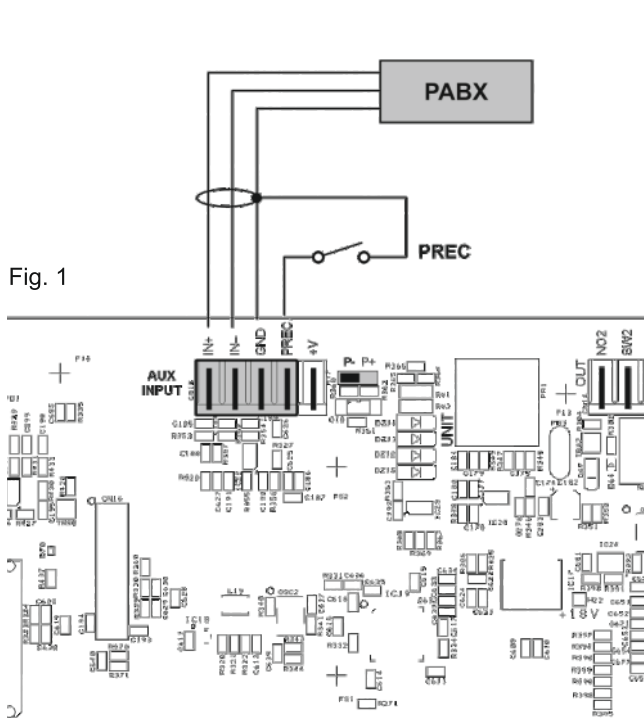
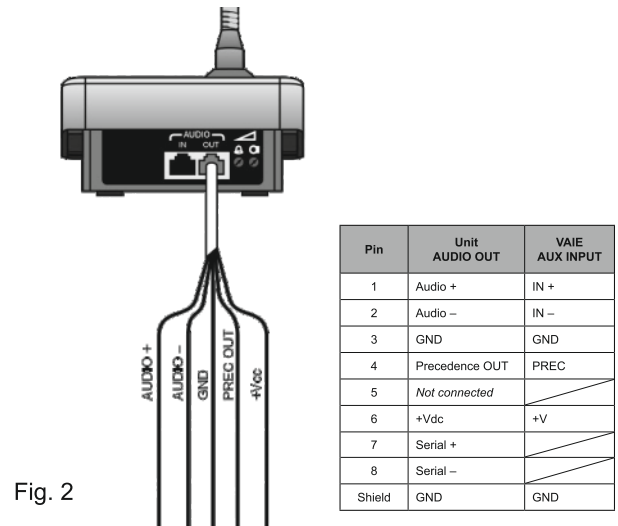

Fig. 1
Fig. 2
The **AUX INPUT** terminals (7) are available for connecting auxiliary sources (e.g. a PABX or a base for announcements with a precedence contact). In the first case, it is necessary to fit a jumper in position "P-" (see Fig. 1). In the second case, on the other hand, using a pre-amplified station of the MBT 1101 range, connection between the AUDIO OUT socket of the base and the AUX terminals has to be made as indicated in the table and the jumper will have to be positioned on "P+" (see (Fig. 2).